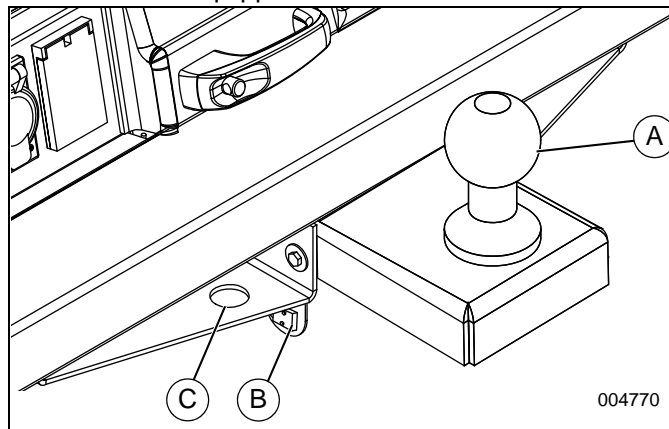

Figure 3-63. Tandem Tow
See **Figure 3-63**. The tandem tow hitch option (A) allows the operator to tow a second MLTS Light Tower in series behind the unit equipped with the hitch.